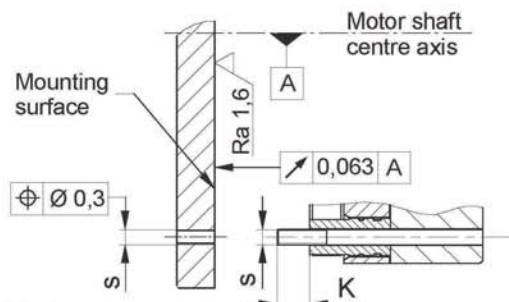

Fig. 5
- On hub designs (Type 8012\_1\_3), the hub bore (10) tolerances and the shaft must be selected so that the hub toothing (10) is not widened. Widening of the toothing leads to the rotor (3) jamming on the hub (10) and therefore to brake malfunctions. Recommended hub - shaft tolerance H7/k6. If the hub (10) is heated for better joining, the O-ring (11) must be removed beforehand and re-mounted after hub installation. The max. permitted joining temperature of 200 °C must not be exceeded.
- Dimensioning of the key connection according to the requirements shaft diameter, transmittable torque and operating conditions must be carried out. For this, the corresponding user data must be known or the customer must carry out the dimensioning according to the valid calculation basis DIN 6892. For the calculation, a hub quality of  $Re = 300 \text{ N/mm}^2$  should be used. The length of the key should lie over the entire hub (10).
- The mounting dimensions and the screw-on surface  $s$  with depth  $K + 2 \text{ mm}$  ( $K = \text{screw projection}$ ) acc. Catalogue or applicable assembly drawing must be given (Fig. 5).